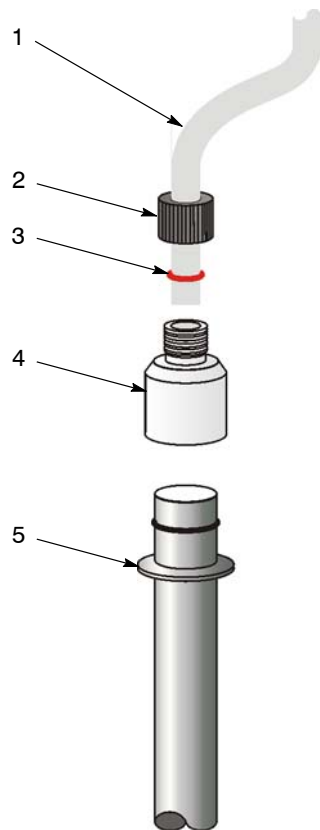

Figure 7 Pickup Tube Adapter Assembly
**NOTE:** Pickup tube adapter assemblies are available for pickup tubes with or without an external O-ring. Figure 7 shows a pickup tube with an external O-ring.
1. See Figure 7. Cut the end of the suction tubing (1) square with a tubing cutter.
2. Insert approximately 2 inches of the suction tubing through the retaining nut (2).
3. Install the O-ring (3) onto the suction tubing.
4. Insert the suction tubing into the pump adapter (4) until it bottoms out.
7. Install the adapter assembly onto the pickup tube (5) using a twisting motion.